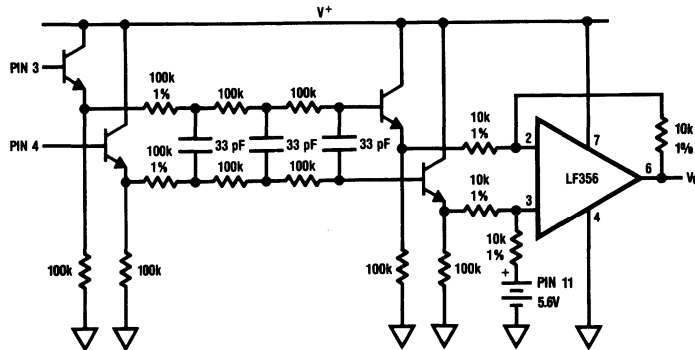

FIGURE 22. Circuit to view the differential demodulated data signal, minus the noise and $2F_0$ components, conveniently with a single-ended gain-of-one output
- When evaluating PLL operation, offset cancel circuit operation, and loop filter values, use the filter of Figure 22 to view the demodulated signal minus the $2F_0$ and noise components. This filter models the RC lowpass filter on chip.
FIGURE 24. Oscilloscope revealing signals at several important nodes under weak signal ($0.5 \text{ mV}_{\text{RMS}}$) conditions with SCR spikes on an otherwise quiet 115 V, 60 Hz power line. The signals are: 1) transmitted data, 2) RX carrier on the tuned transformer, 3) demodulated signal from the PLL after passing thru circuit of *Figure 22*, 4) signal after RC lowpass, 5) data at impulse noise filter integrator, and 6) received data. Horizontal scale is 10 ms per div.